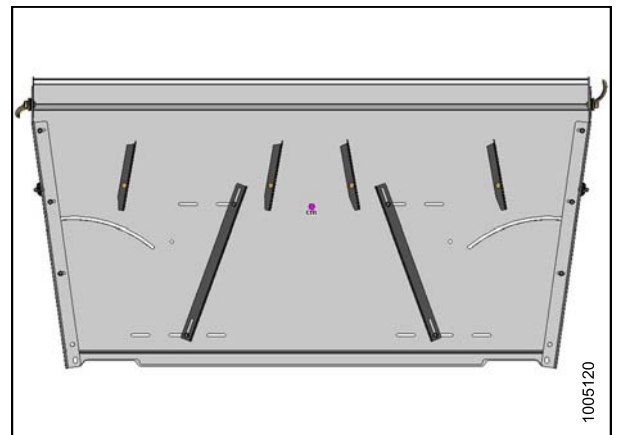

Figure 3.55: Deflector Fins
4. Position fins approximately as shown in Figure 3.55: *Deflector Fins*, page 53, and tighten hardware.